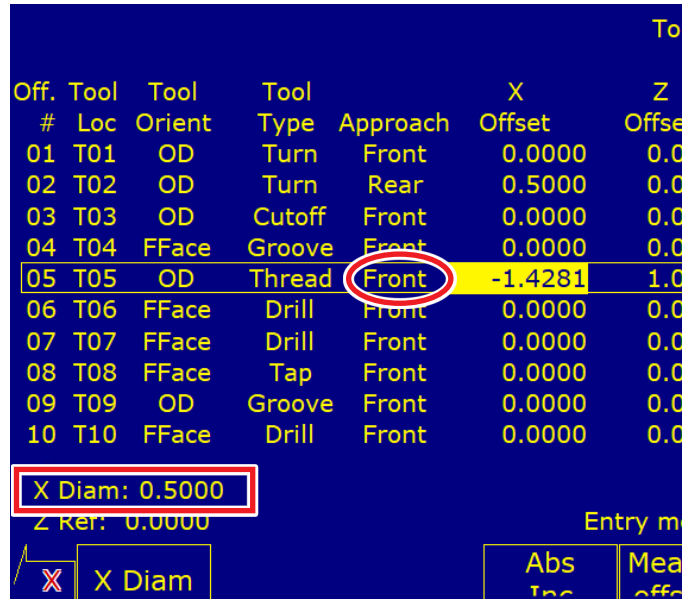

FIGURE 25
D. After you click on Save F10, the screen will show “X Diam: 0.5000” (see Figure 25).